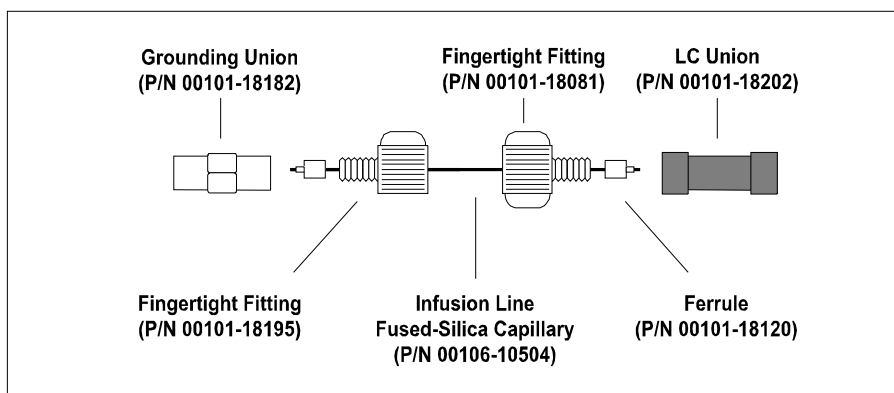

Figure 3-2. ESI/MS plumbing connections for the fused-silica infusion line
6. Connect a fused-silica infusion line from the LC union to the (stainless steel) grounding union as follows. See Figure 3-2.